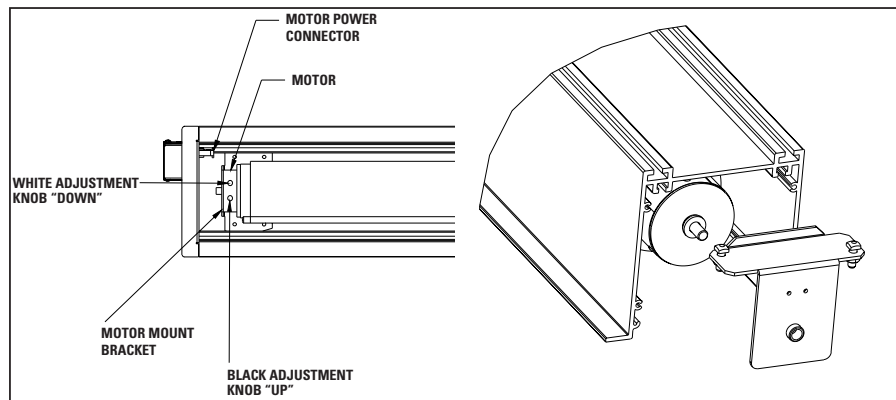

FIGURE 1
3. To install screen and roller assembly, insert the motor end into the motor mount bracket as shown in Fig. 1.
2. When the screen stops, turn the white **"down"** limit knob (Fig.1) one turn counterclockwise. Test by raising picture surface approximately two feet, then lower again. Repeat until desired picture surface position is attained.
3. Turn the white **"down"** limit knob (Fig.1) one turn clockwise. Test by raising picture surface approximately two feet, then lower again. Repeat until desired picture surface position is attained.